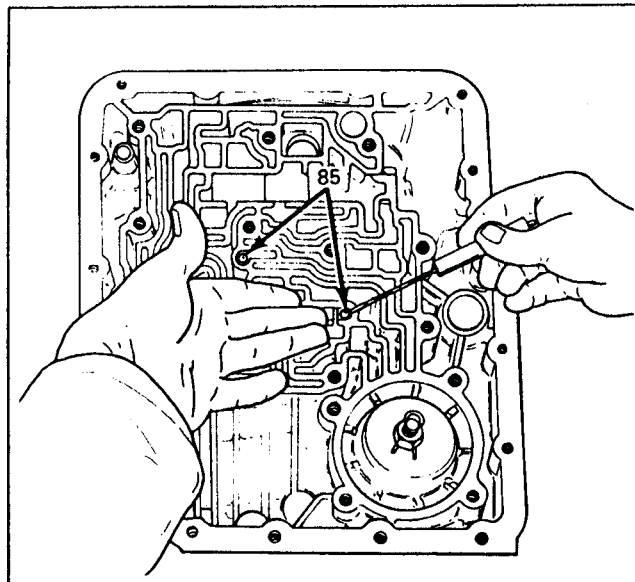

Figure 17
13. Remove 2 checkballs from the main case using a screwdriver (See Figure 17).